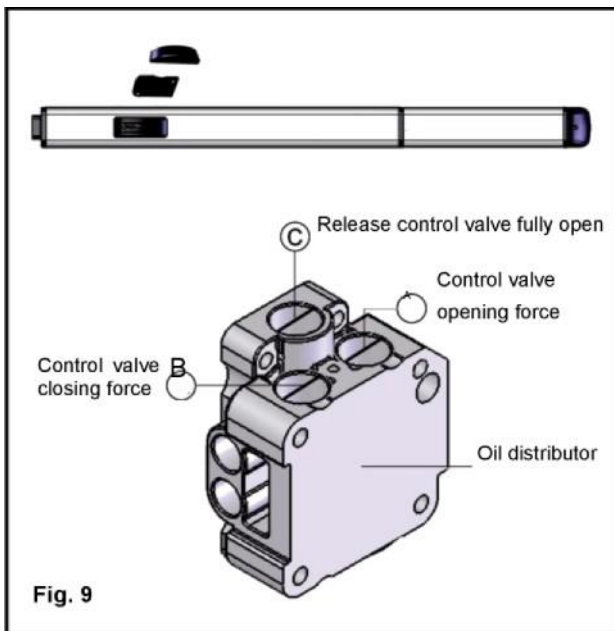

Fig. 9
4.1 SETTING ANTI-CRUSHING SYSTEM (Fig.9)